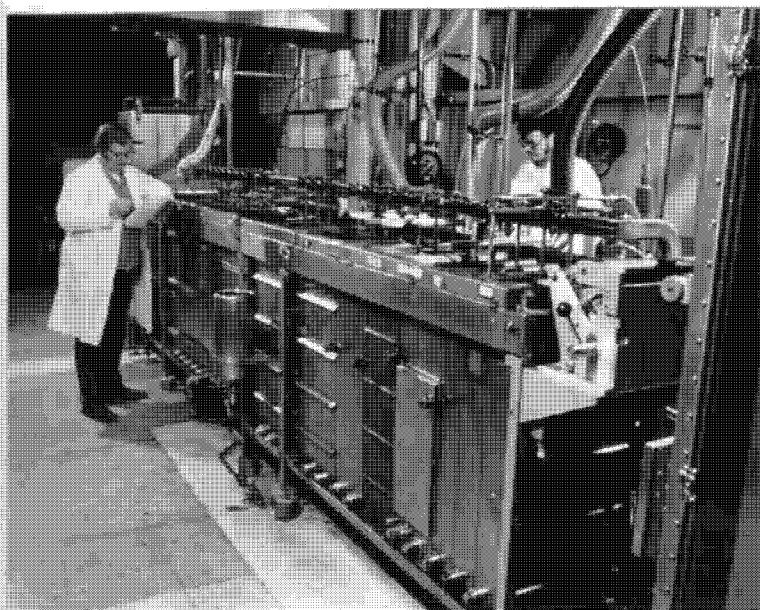

Figure 64
- Figure 64 - Grafton Film Processor